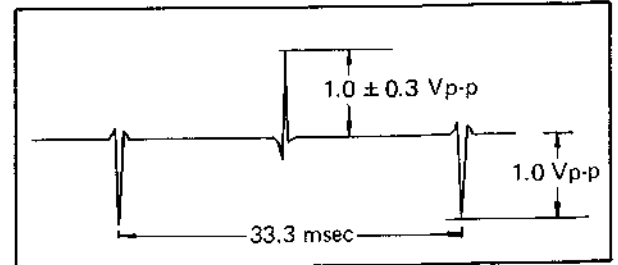

Fig. 5-7 Drum pulse
2. After the drum servo has locked, adjust R42 (PULSE LEVEL) of the SERVO board to obtain a negative direction pulse of 1.0 Vp-p. See Fig. 5-7.